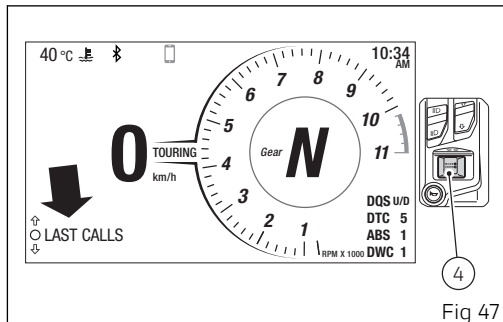
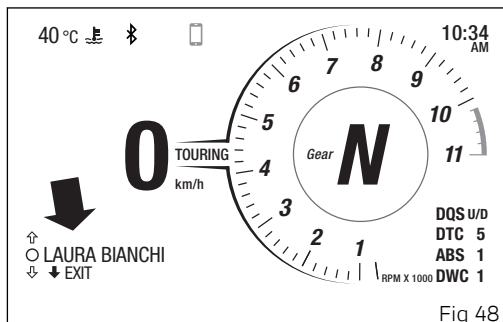

Fig 47
Fig 48
To display the list of calls, press button (4) (Fig 47). When entering this function, the display shows message "WAIT.." for a few seconds, then shows the name or phone number from the last call (Fig 48).